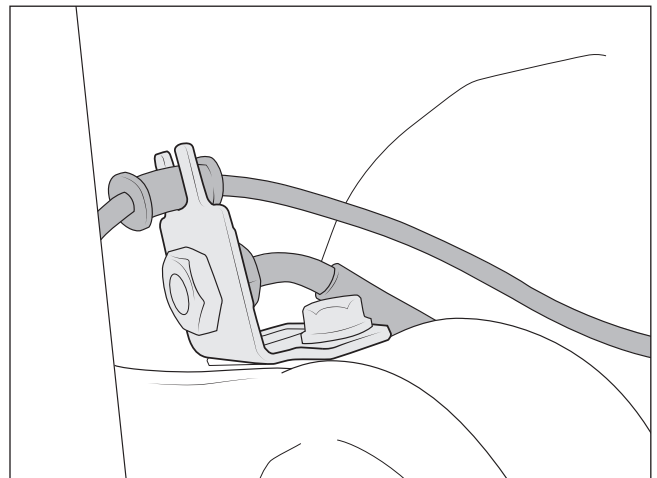

Figure 4
- c. Remove the flexible line brackets at the top of the radius arms and let hang (fig. 4).